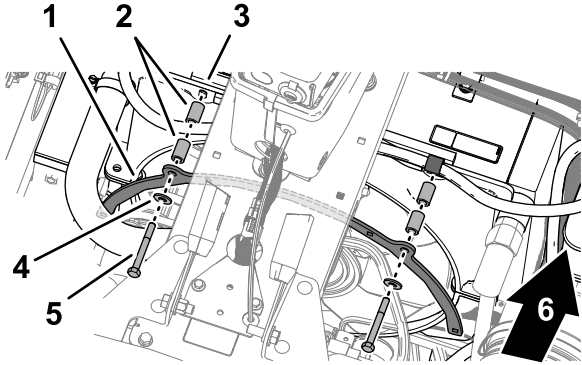

Figure 3
3. Align the holes on the forward fan guard with the holes in the fan shroud (Figure 3).
- Install the guard to the shroud (Figure 3) with the 4 spacers, 2 washers (5/16 inch), and 2 capscrews (5/16 x 2-3/4 inches).